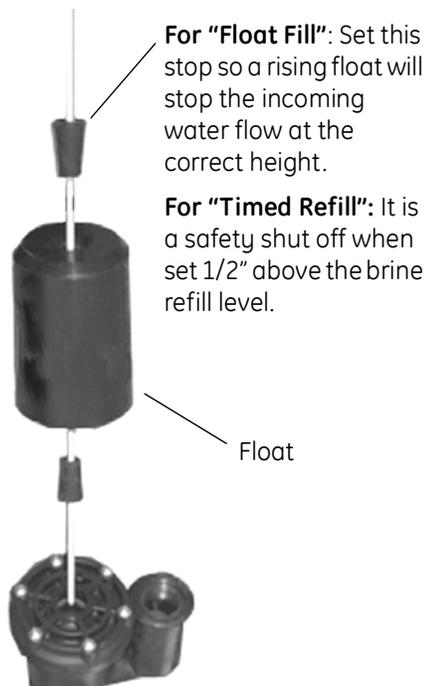

Figure 12
- The float valve is used to prevent overflow. It has to be set at a height above brine refill level. See Figure 12.